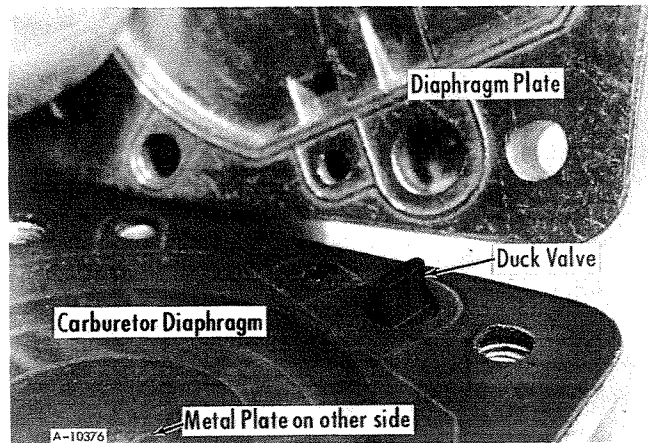

FIGURE 26
- Make sure the metal side of the carburetor diaphragm goes next to the inlet control lever. Put the one way valve in place, then put on the diaphragm and diaphragm plate. The "bill" of the one way valve projects through the diaphragm and into the plate (Figure 26).